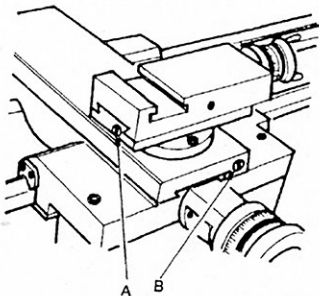

Fig.21
2. Tighten the front gib screw (B, Fig. 21) a quarter turn. Turn the cross slide handwheel to see if the cross slide is still loose. If it is still loose, tighten the front screw a bit more and try again.
Follow the same procedure as the cross slide adjustment to adjust the compound rest. Rear gib screw (B) is shown in Fig. 21. **Note:** the front handwheel on the compound will have to be removed to access the front gib screw.